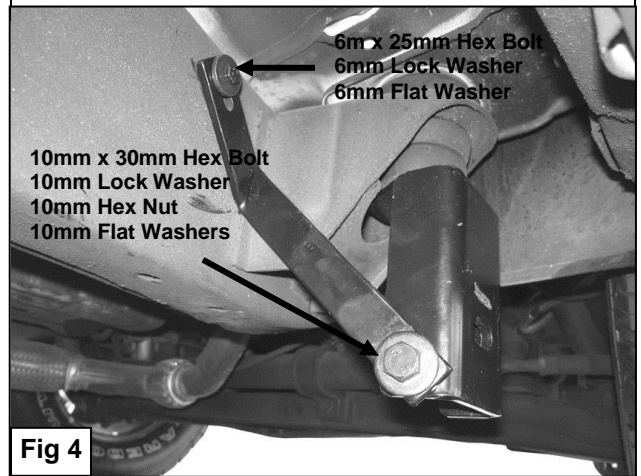

Fig 4
There is a factory threaded hole in the frame located by the rear side of front body mount. Partially install the shorter angle bend of front Support Bracket to factory threaded hole using the included (1) 6mm x 25mm Hex Head Bolt, (1) 6mm Lock Washer, and (1) 6mm Flat Washer. Do not tighten at this time (**Figure 4**).